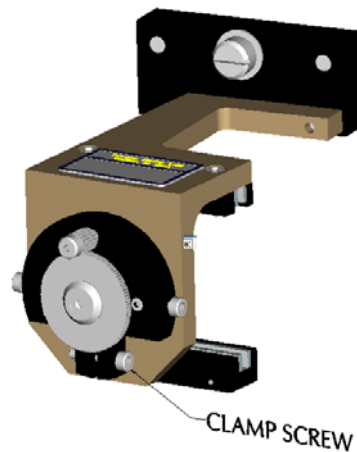

Figure 8-4
4. Loosen the cap screws and remove the cover that protects the Iris Adjustment Mechanism. There is a reduction gear drive mechanism under the cover used to provide precise adjustment of the Iris. See Figure 8-4.